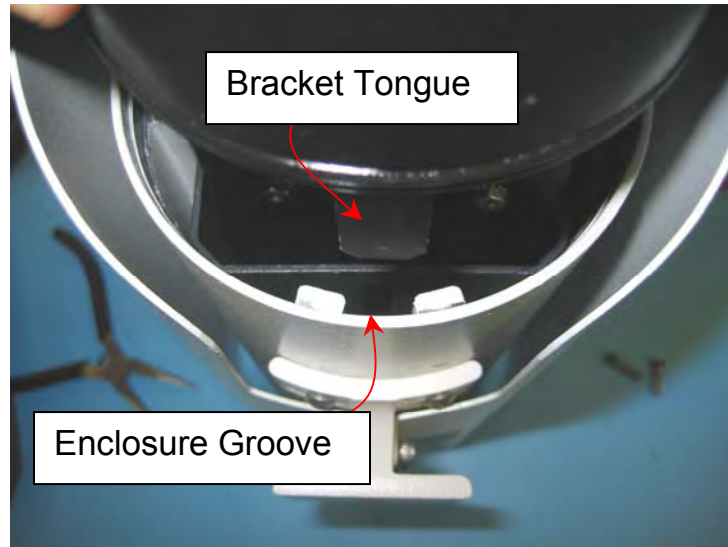

Figure 4-4: Tongue and Groove Alignment
4. Insert the SR Series camera assembly into the front of the enclosure aligning the tongue on the underside of the interface board bracket with the groove on the inside bottom of the enclosure, as shown in Figure 4-4. Press the two components together and ensure the O-ring is seated properly.